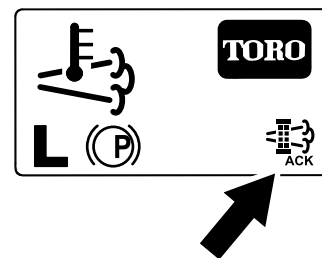

Figure 66
8. The InfoCenter displays the home screen and the regeneration acknowledge icon (Figure 66) appears in the lower right corner of the screen as the regeneration processes.